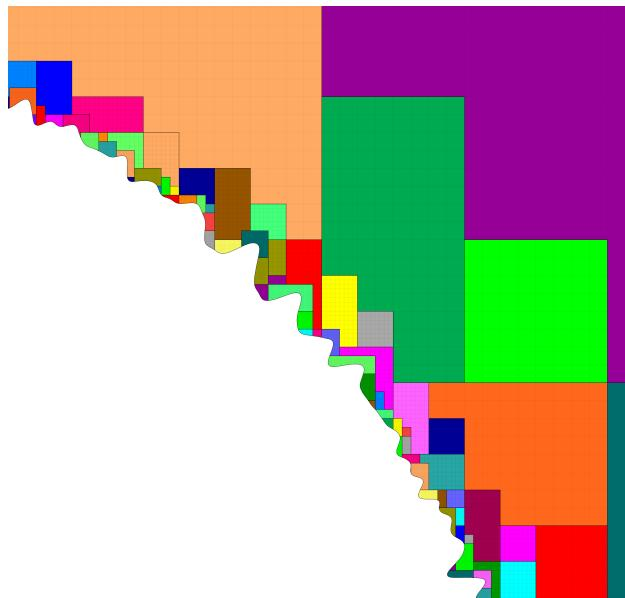

Fig. 3.1.2: Patch-based refinement (factor 4 between levels) of a complex surface. Each color shows a patch, which is a rectangular computational unit.
chombo-discharges uses an embedded boundary (EB) formulation for describing complex geometries. With EBs, the Cartesian grid is directly intersected by the geometry. This is fundamentally different from unstructured grid where one generates a volume mesh that conforms to the surface mesh of the input geometry. Since EBs are directly intersected by the geometry, there is no fundamental need for a surface mesh for describing the geometry. Moreover, Cartesian EBs have a data layout which remains (almost) fully structured. The connectivity of neighboring grid cells is still trivially found by fundamental strides along the data rows/columns, which allows extending the efficiency of patch-based AMR to complex geometries. Fig. 3.1.2 shows an example of patch-based grid refinement for a complex surface.